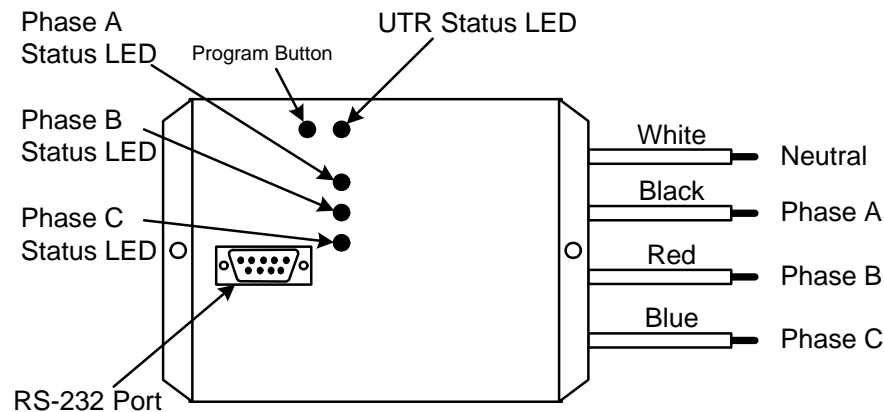

Figure 1: UTR Three-Phase Repeater
The UTR 3-Phase Repeater (Figure 1) is specifically designed to repeat a UPB™ message onto each 120 V electrical phase of a standard (120 VAC phase to neutral) 3 Phase AC powerline where the phases are separated by 120°. The UTR is capable of receiving a UPB™ message on one of the AC electrical phases and repeating it onto all three AC electrical phases. The UTR 3-Phase Repeater also provides a RS-232 serial interface that can be used to transmit and receive UPB™ messages from a host computer or home automation controller.
1. Refer to Figure 1 and Figure 2 to determine the wire colors of the hook-up.
9. Restore power. Verify that the UTR Status LED indicator is solid orange (see Figure 1 for reference).